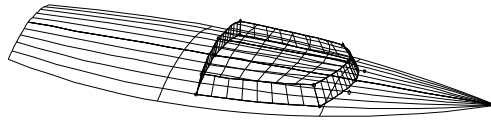

Fig. 11. 2CABINS.MS2
- 4 Now **press the function key <F5>** to see the symmetry images that make the other half of the model (Fig. 11).